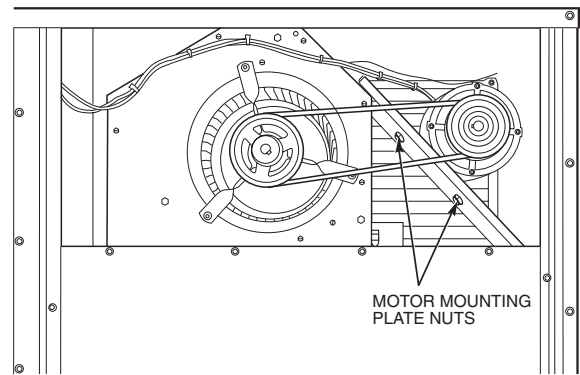
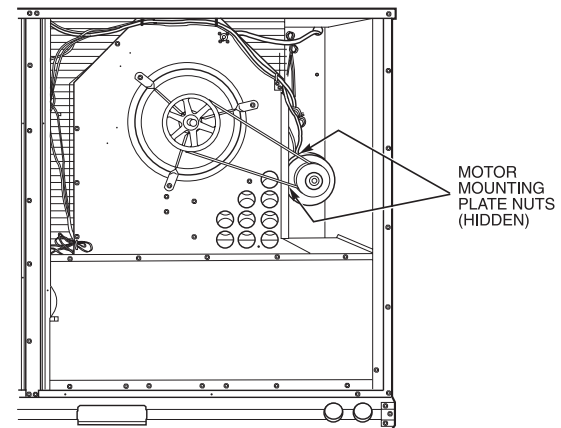

Fig. 42 — Typical Belt-Drive Motor Mounting for Sizes 008,009
Fig. 43 — Typical Belt-Drive Motor Mounting for Sizes 012,014
2. Loosen belt by loosening fan motor mounting plate nuts (see Fig. 42 and 43).
To adjust belt tension (see Fig. 42 and 43):
2. *Units 008,009* — Slide motor mounting plate away from fan scroll for proper belt tension ($\frac{1}{2}$ -in. deflection with 8 to 10 lbs of force) and tighten mounting nuts (see Fig. 42). *Units 012,014* — Slide motor mounting plate downward to tighten belt tension. Secure motor mounting plate nuts. See Fig. 43.